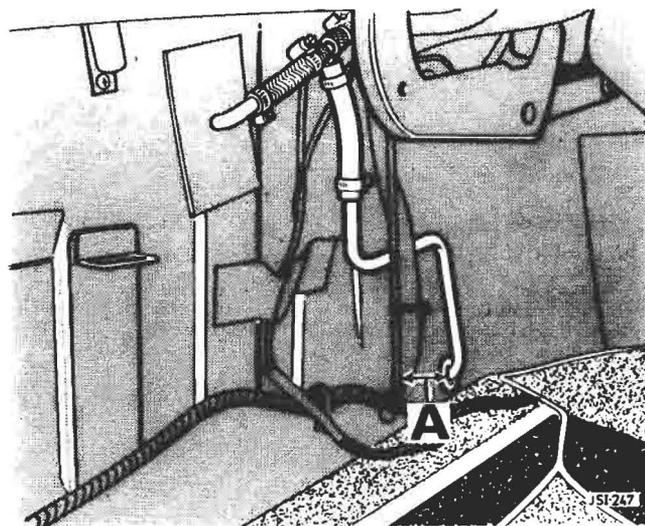

FIG. 3
18. Attach underfloor return pipe (U). This pipe is a standard 4.2 fuel return pipe and is fitted to the vehicle in the same position as 4.2 vehicles using:
- (i) 'P' clip (V) and screw (W).
- (ii) Clip (X) and screw (Y).
- (iii) Spacer (Z), screw (AA) and clip (BB).
- (iv) Clip (BB) and rivet (CC).
20. Attach hose (T) to pipes (U & P).
21. Attach hose (EE) to pipe (DD) and feed the hose between the axle cage and the body so that it protrudes into the nearside wheel arch aperture just below the rear axle cage mounting point.
23. Using a 22mm (0.875in.) hole saw make a hole in the body 100mm (4in.) forward of the vapour pipe. See Fig. 3 dimension 'A'.
See Fig. 3.